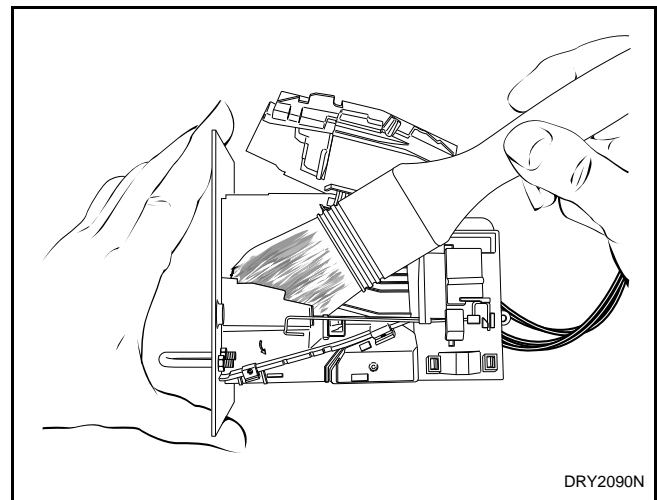

Figure 56
- Clean the coin path with a soft brush and wipe exposed surfaces with an alcohol moistened cloth. Refer to *Figure 56*.